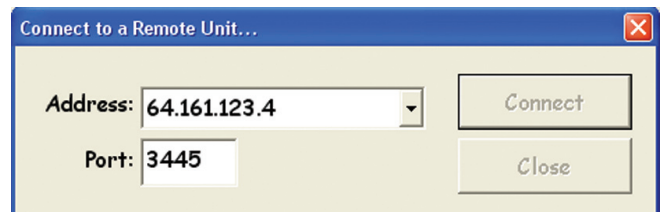

Figure 5.3.1 Connect to Remote Unit Dialog Box
3. This action presents a dialog box like the one pictured in Figure 5.3.1. Enter the IP Address and click the "Connect" button. The system uses the default port number 3445. This default value should be used unless network requirements dictate otherwise.